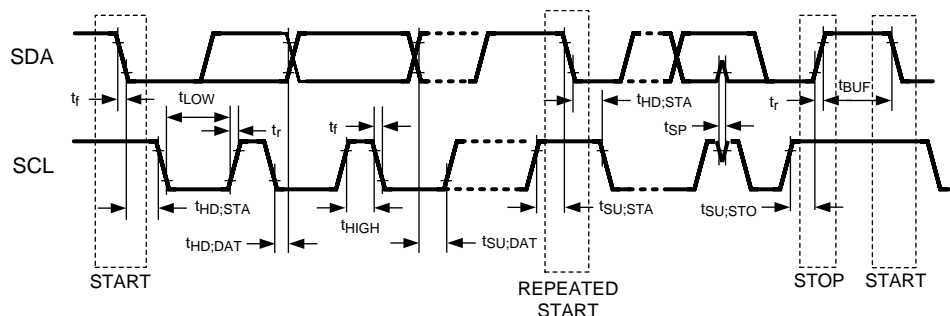

Figure 5. Serial Control Bus Timing
(6) UI – Unit Interval is equivalent to one ideal serialized data bit width. The UI scales with PCLK frequency.
(9) Specification is guaranteed by characterization and is not tested in production.
**Bi-Directional Control Bus AC Timing Specifications (SCL, SDA) - I2C Compliant (Figure 5)**
### Bi-Directional Control Bus AC Timing Specifications (SCL, SDA) - I2C Compliant (Figure 5) (continued)